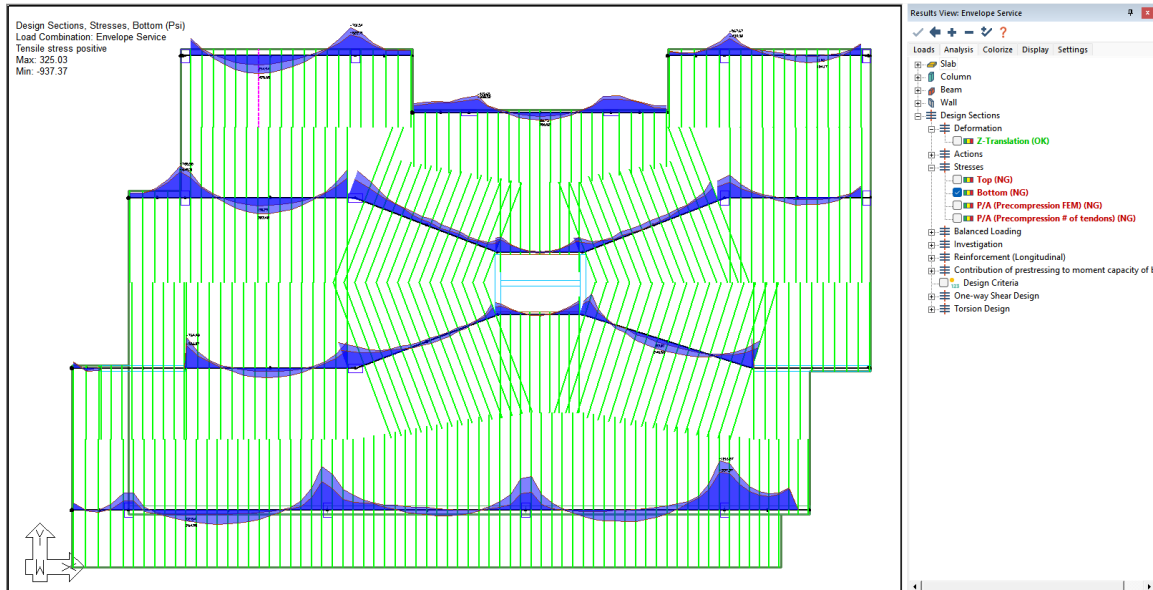

FIGURE 9-96
- The user should now see the bottom stress values along the X-direction support lines as shown in **FIGURE 9-96**.